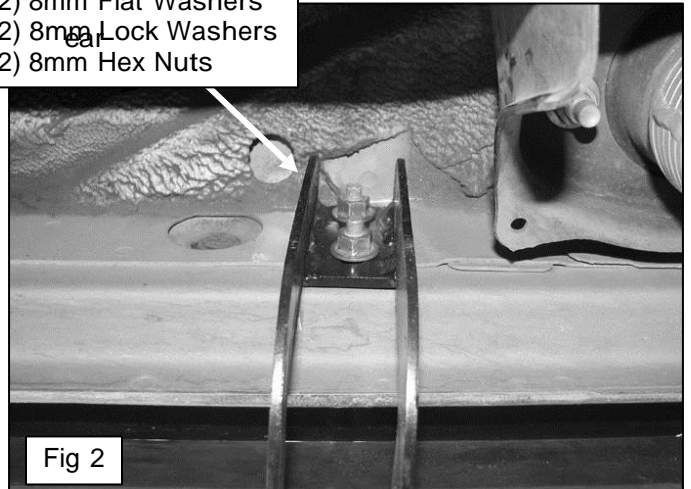

Fig 2
2. Locate the threaded studs on the inner body panel, (Figure 1). Select (1) Mounting Bracket and hang it from the front mounting location, (Figures 2 & 3). Secure it with the included (2) 8mm Flat Washers, (2) 8mm Lock Washers and (2) 8mm Hex Nuts. Snug hardware but do not tighten at this time.
3. Repeat Step 2 for the driver side Center and Rear Mounting Bracket installation, (Figures 2 & 3).